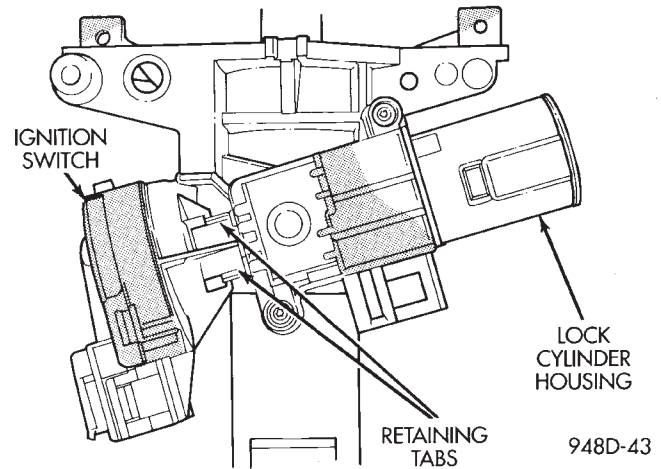

Fig. 53 Ignition Switch—Viewed From Below Column
The ignition switch attaches to the lock cylinder housing on the end opposite the lock cylinder (Fig. 53). For ignition switch terminal and circuit identification, refer to Group 8W, Wiring Diagrams.
(15) Depress retaining tabs (Fig. 53) and pull ignition switch from steering column.